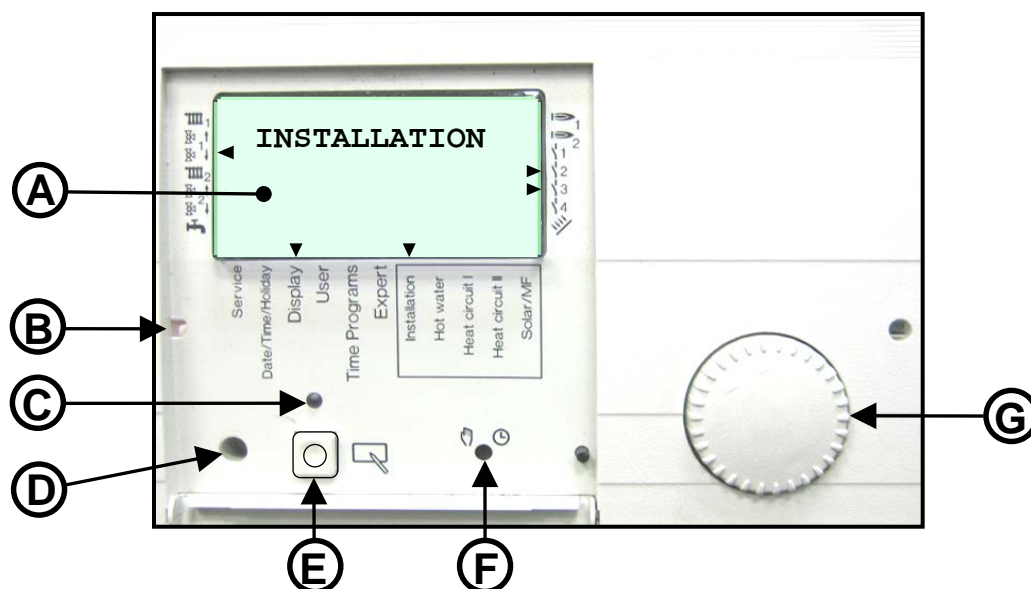

Figure 3-3: E8 Controller Controls (cover open in MENU Mode)
Opening the E8 controller hinged door reveals the E8 controls (**Figure 3-3**) and initiates the MENU Mode, which enables access to an extensive set of software menus.
3. To view functions included in the INSTALLATION sub-menu, press the Program Key (**Item E, Figure 3-3**). If desired, turn the Rotary Knob to scroll through the functions in the INSTALLATION sub-menu. As previously mentioned, these display functions are read-only and cannot be changed. Once you reach the end of the sub-menu, RETURN will appear in the display.